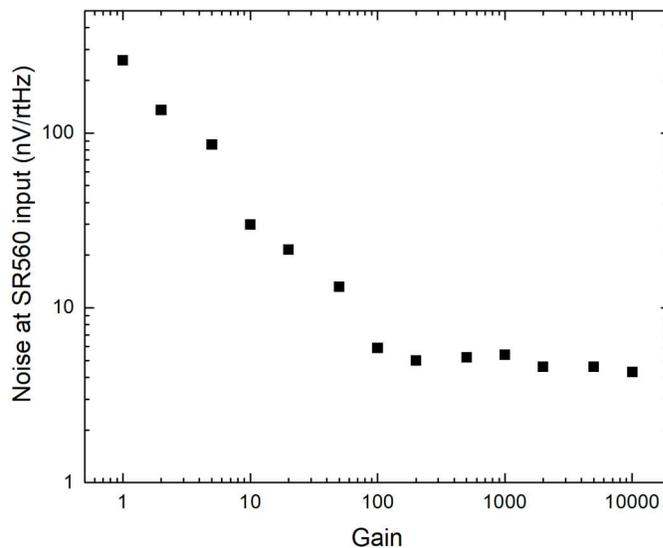

Figure 15. A measurement of the SR560 noise (referred to the input) as a function of the amplifier gain.
If you put everything together correctly, you should get results that look something like you see in Figure 15. If you get something radically different from this, check all your settings again. The exact noise levels may differ substantially (by as much as 2x) between instruments, so your results may not look exactly like Figure 15. But the overall amplitudes and trends should be there. As always, if you are having trouble, ask.
where Z is the load impedance of 50Ω. (You can derive this for yourself, but the exercise is not so interesting and soon forgotten.) How does the 3021X noise floor compare with the SR560, which has a specified input noise as low as 4 nV/rtHz? (As you saw in Figure 15, the measured SR560 input noise is perhaps a bit worse than specified.)
**Exercise 16.** Reproduce the results in Figure 18 and put a copy in your e-notebook. To do this, send the pcb output first into the SR560, as this is needed to buffer the pcb output to drive the 3021X’s  $50\Omega$  input impedance. You can use a fairly low SR560 gain (say  $G=10$ ), because the LT1028 already amplifies the noise signal by 1000x. But  $G=1$  is a bit too low, given the results in Figure 15. Also, AC couple the SR560 because the LT1028 has a high DC offset.